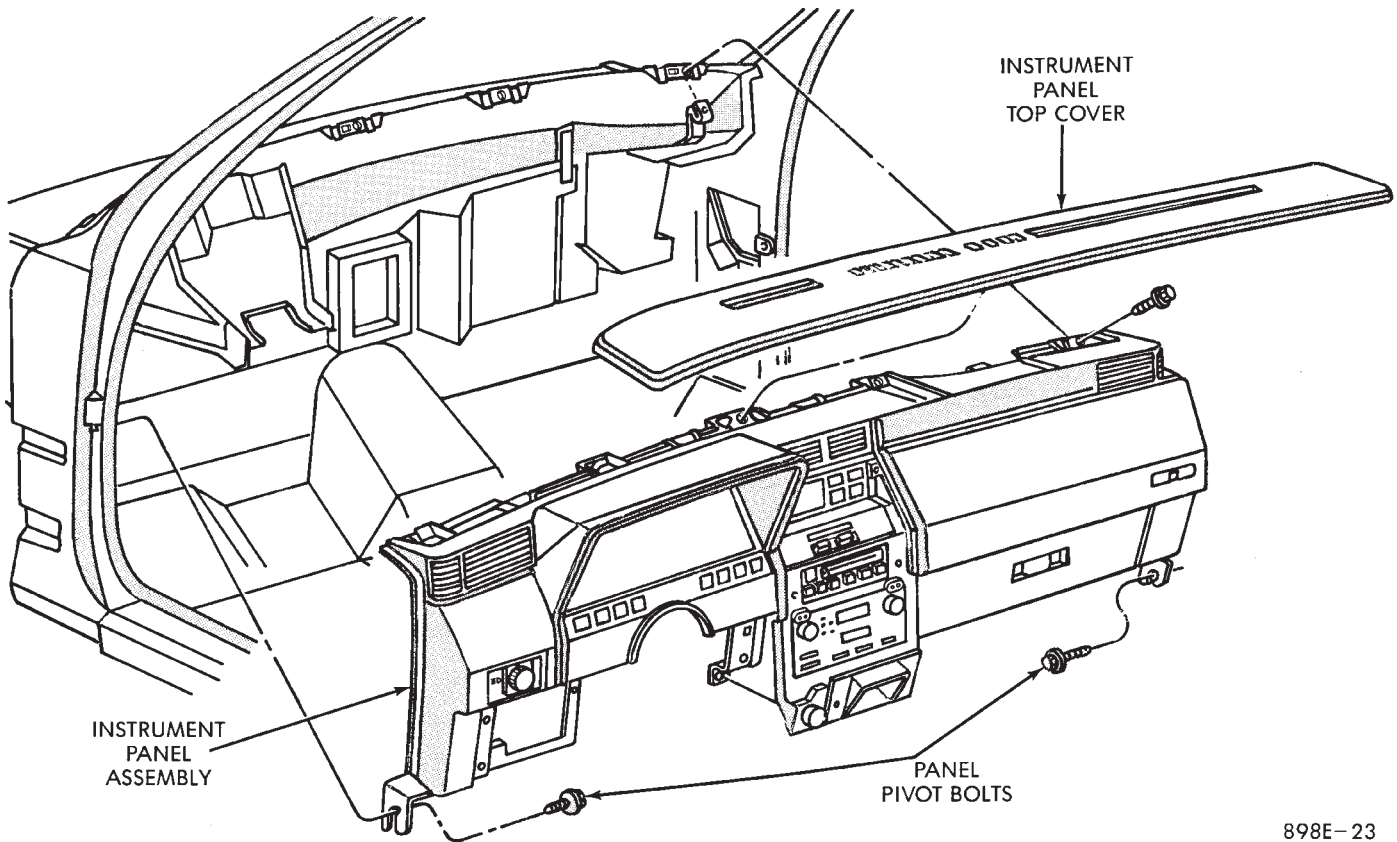

Fig. 29 Instrument Panel and Top Cover
- (1) Place trim-stick tool in groove between the panel top cover and pad surface (FIG. 29).
- (2) Pry cover up and forward until released from instrument panel pad.
- (3) Lift top cover upward and rearward to remove from vehicle.
- (4) For installation place top cover on panel opening. Be certain that blades of top cover are located in the retaining spring clips.
- (5) Push forward and down to engage in pad.
- (2) Open hood and remove cowl top plastic cover.
- (3) Remove windshield washer reservoir.
- (4) Pull connector loose from the A/C resistor block, and push wiring and grommet through bulkhead into passenger compartment.
- (5) Remove the console/consolette assembly.
- (6) Remove the passive restraint seat belt logic control module wiring.
- (7) Remove six attaching nuts securing the instrument panel to console support brace.
- (8) Remove the instrument panel to console support brace with the Air Bag System Diagnostic Module attached.
- (9) Remove right and left cowl side and scuff plate trim moldings.
- (10) Remove left and right A-pillar trim moldings.
- (11) Remove instrument panel top cover (Fig. 29).
- (12) Remove lower steering column cover.
- (13) Disconnect the steering column wiring at the 25-way connector.
- (14) Disconnect park brake, stop lamp, and speed control wiring.
- (15) Remove five steering column support nuts and lower steering column. Then remove two steering column attaching studs.
- (16) Disconnect engine harness wiring at 18-way and 16-way connectors located on the left side panel support bracket.
- (17) Remove glove box assembly.
- (18) Remove the panel top cover assembly.
- (19) Loosen the panel roll-down pivot bolts.
- (20) Remove the defroster duct adapter from defroster duct.
- (21) Remove screws which attach instrument panel to windshield fence line. Roll panel down, attach heavy wire to hold in position and remove defroster duct retaining screws.